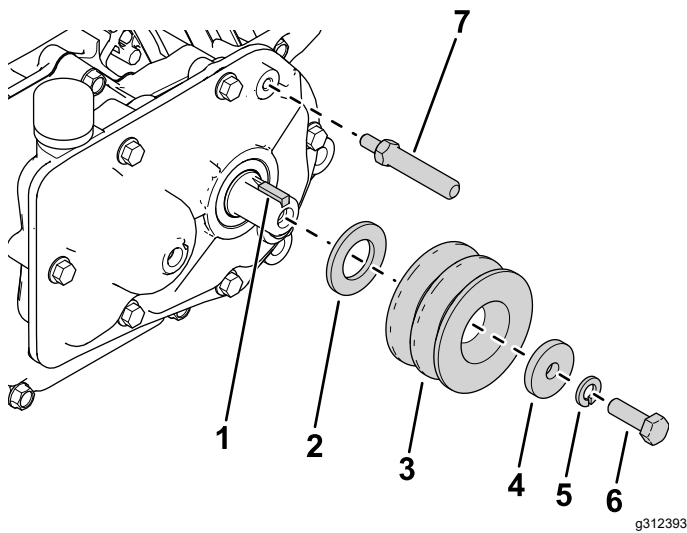

Figure 2
2. Install the square key onto the output shaft (Figure 2).
3. Install the new washer (M20), drive pulley, washer (5/16 inch), lock washer, and bolt (5/16 x 1 inch) as shown in Figure 2.
4. Install the traction pivot shaft to the gearbox (Figure 2).